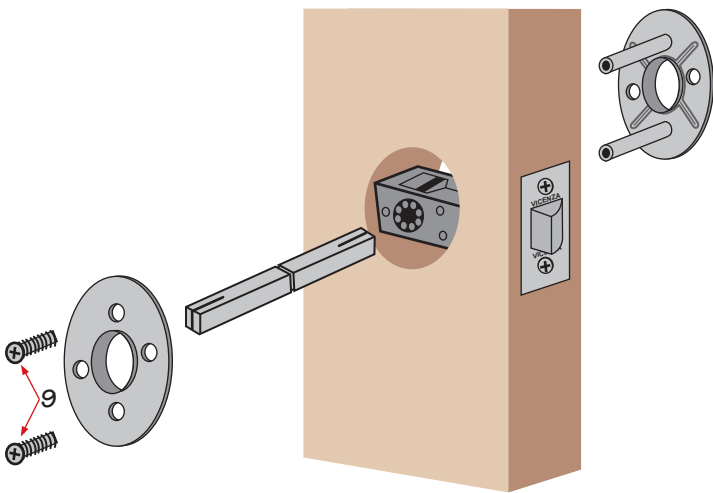

FIGURE 3
4. Slide mounting brackets over spindle and fasten with machine screws. (Orient mounting brackets to show machine screw heads inside room to be locked.) Once mounting brackets are tight, remove self-alignment plugs and discard or set aside for additional installation. (Figures 3,4)